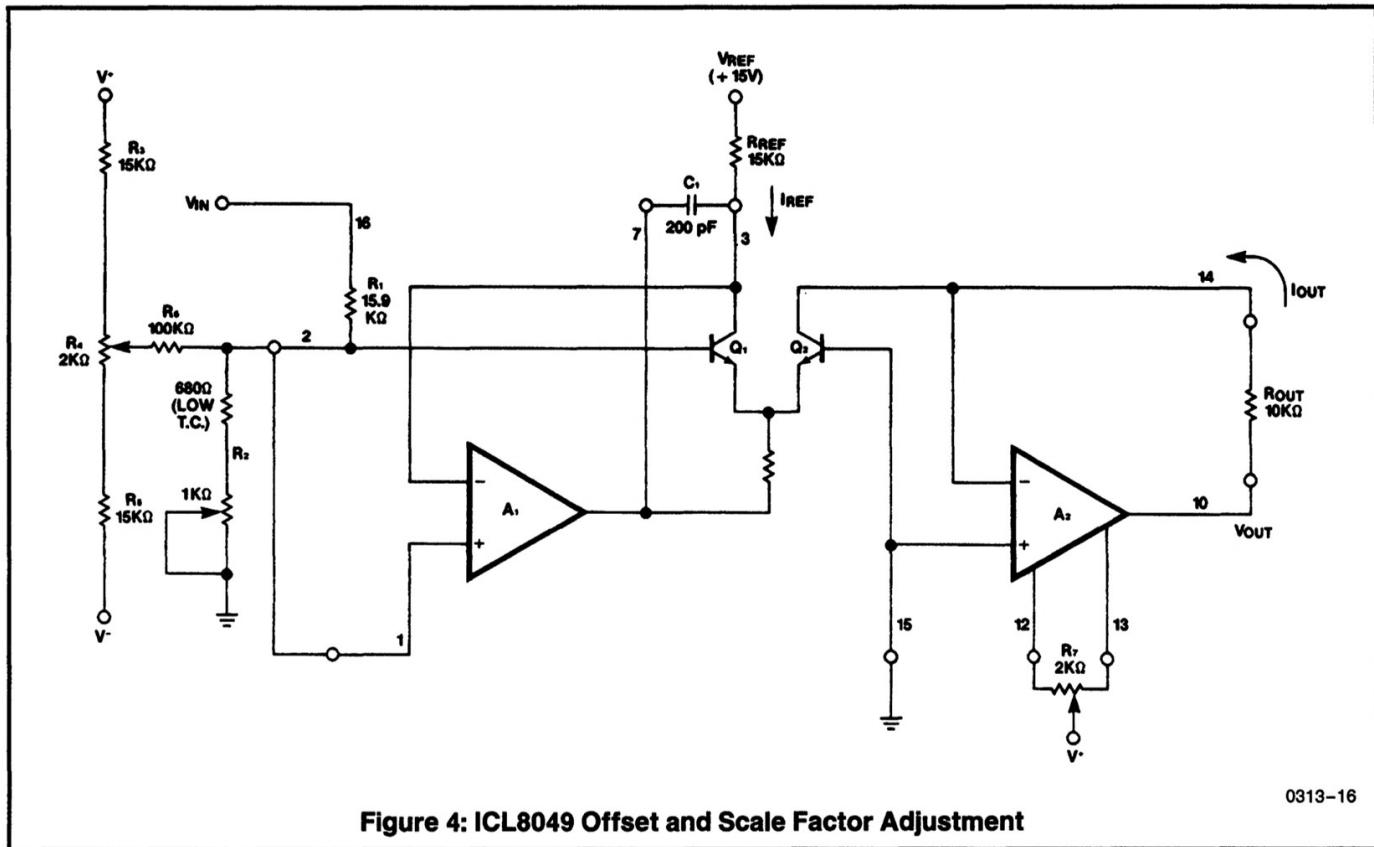
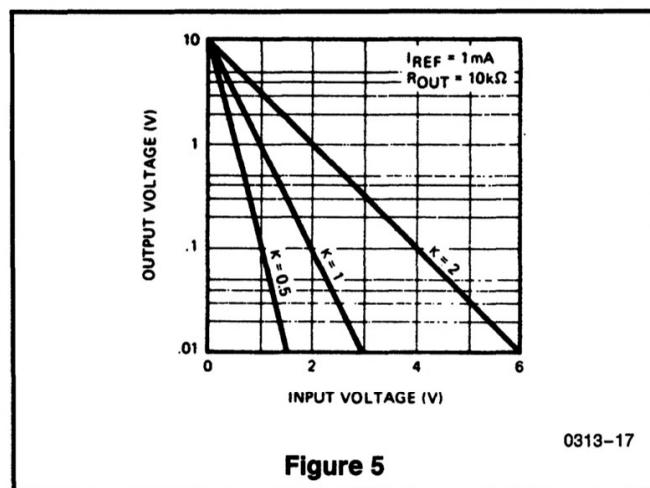
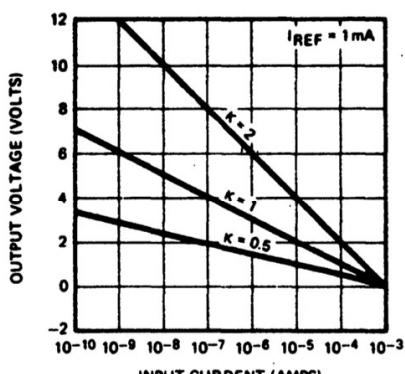

Figure 4: ICL8049 Offset and Scale Factor Adjustment
Figure 5
Figure 6
The ICL8049 relies on the same logarithmic properties of the transistor as the ICL8048. The input voltage forces a specific  $\Delta V_{BE}$  between Q1 and Q2 (Figure 4). This VBE difference is converted into a difference of collector currents by the transistor pair. The equation governing the behavior of the transistor pair is derived from (2) on the previous page and is as follows:
As with the log amplifier, the antilog amplifier requires three adjustments. The first step is to null out the offset voltage of  $A_2$ . This is accomplished by reverse biasing the base-emitter of  $Q_2$ .  $A_2$  then operates as a unity gain buffer with a grounded input. The second step forces  $V_{IN}=0$ ; the output is adjusted for  $V_{OUT}=10V$ . This step essentially "anchors" one point on the transfer function. The third step applies a specific input and adjusts the output to the correct voltage. This sets the scale factor. Referring to Figure 4, the exact procedure for 1 decade/volt is as follows:
By adjusting  $R_2$  (Figure 3 and Figure 4) the scale factor "K" in equation 9 and 10 can be varied. The effect of changing K is shown graphically in Figure 5 for the log amp, and Figure 6 for the antilog amp. The nominal value of  $R_2$  required to give a specific value of K can be determined from equation 11. It should be remembered that  $R_1$  has a  $\pm 20\%$  tolerance in absolute value, so that allowance shall be made for adjusting the nominal value of  $R_2$  by  $\pm 20\%$ .
Although the op-amps in both the ICL8048 and the ICL8049 are compensated for unity gain, some additional frequency compensation is required. This is because the log transistors in the feedback loop add to the loop gain. In the 8048, 150pF should be connected between Pins 2 and 7 (Figure 3). In the 8049, 200pF between Pins 3 and 7 is recommended (Figure 4).
In both the ICL8048 and the ICL8049 the input current reference pin (IREF) is not a true virtual ground. For the ICL8048, a fraction of the output voltage is seen on Pin 16 (Figure 3). This does not constitute an appreciable error provided VREF is much greater than this voltage. A 10V or 15V reference satisfies this condition. For the ICL8049, a fraction of the input voltage appears on Pin 3 (Figure 4), placing a similar restraint on the value of VREF.